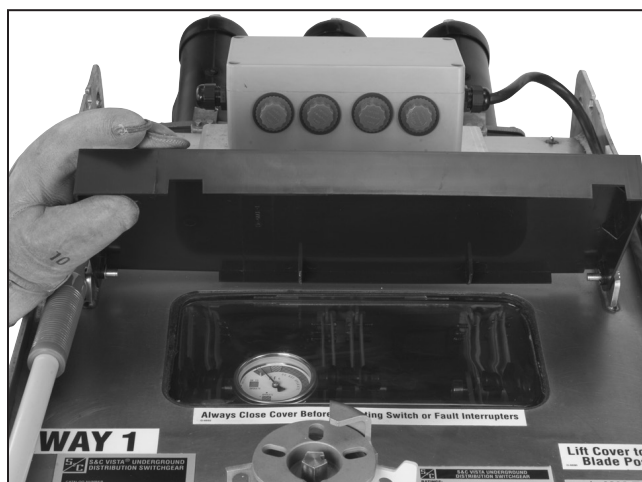

Figure 7. Window cover lifts for viewing of fault-interrupter blade positions.
STEP 2. Open the viewing window cover and confirm the position of the fault interrupter by visually observing the position of the blades. See Figures 7 and 8.